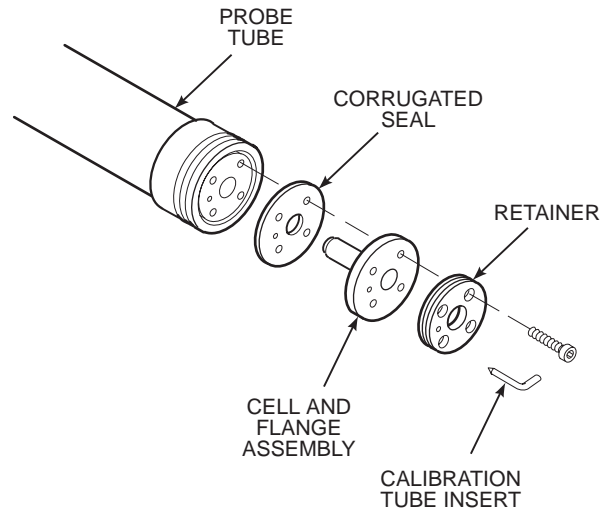

Figure 1-3. Cell and Tube Assemblies
- a. **Cell and Flange Assembly.** The primary component in the cell and flange assembly, Figure 1-3, is a yttria-stabilized zirconium oxide cell. It creates an electrical signal when the
- b. **Probe Tube Assembly.** Screws and a retainer ring secure the cell and flange assembly, Figure 1-3, to the probe tube assembly. When in place, the cell is inside the tube. The retainer ring is high temperature chrome plated to prevent galling and seizing. It is also coated with anti-seize compound to help avoid seizing.